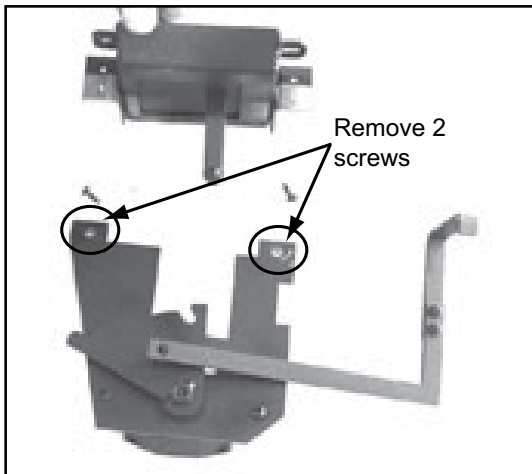

Figure 4.14
4. You will need to disconnect air chamber cover from timer assembly before installing in the fireplace. Set screws aside for later use. Figure 4.14 on page 27.